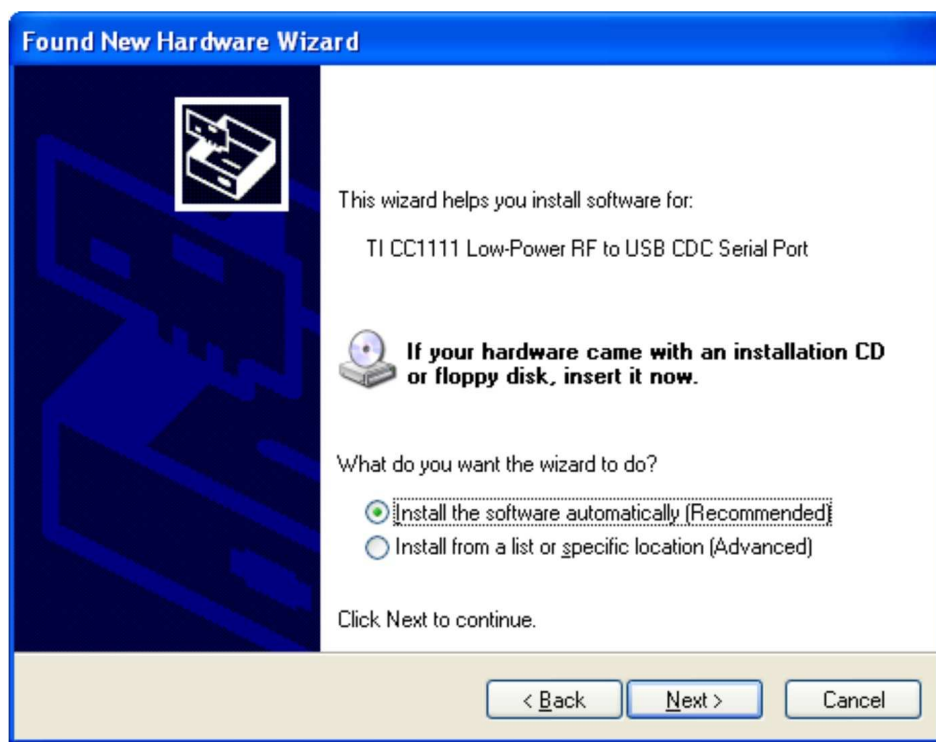

Figure B-6. Automatic Driver installation
- Select *Install the software automatically* in next dialog (see Figure B-6).